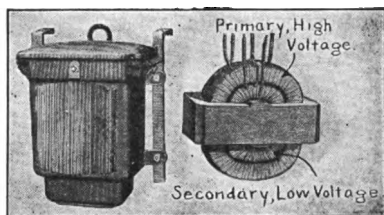

FIG. 241.—TRANSFORMER
**266. Transformer.** If we examine the poles on which are strung the wires that supply the electric light to houses, we see on some of them an iron box like Figure 241.